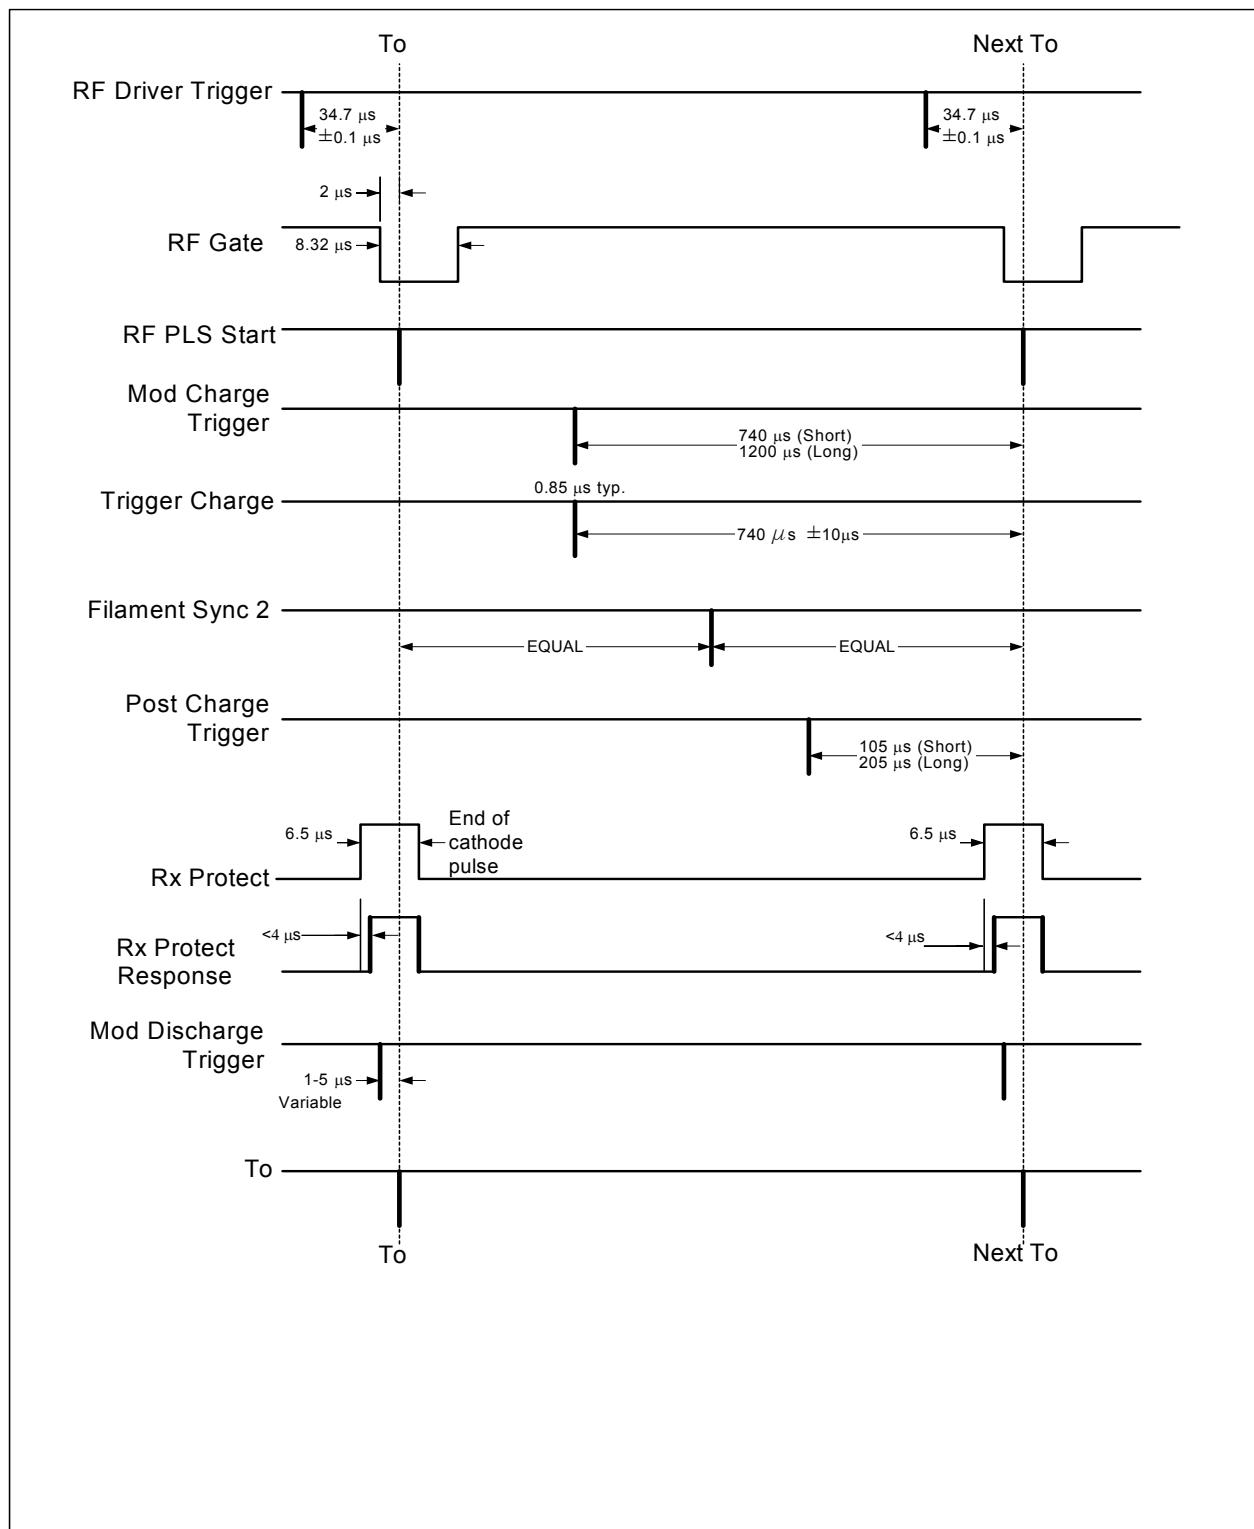

Figure 1: Trigger Timing
- The trigger sequence will follow the pattern shown on Figure 1
- The timing relationship of these triggers is as defined in Figure 1